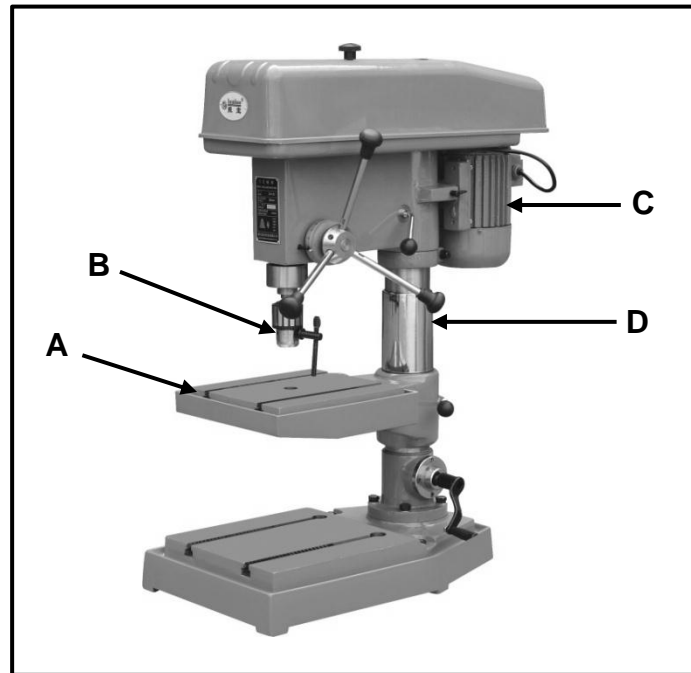

FIGURE 6.1
6.1 FIGURE 6.1 below shows a pedestal drill. Label parts **A–D**.